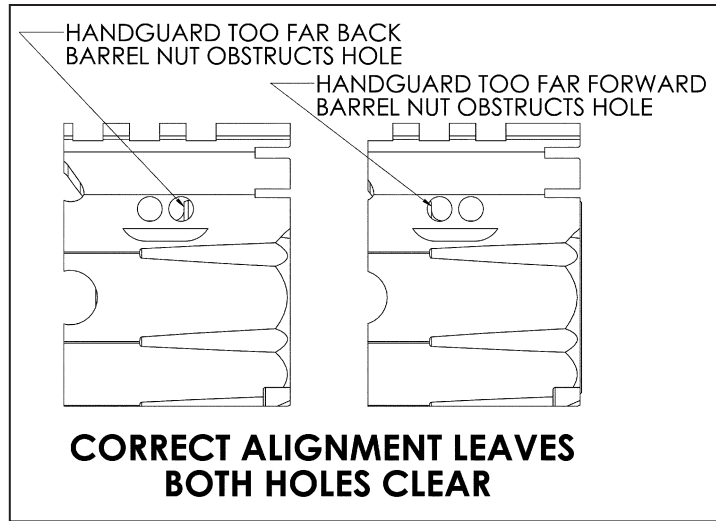

Figure 2
15. The handguard is fully seated when both screw holes align with the groove of the barrel nut. The barrel nut should not occlude either cross bolt hole. (See **Figure 2** to for depiction of a fully seated handguard.)